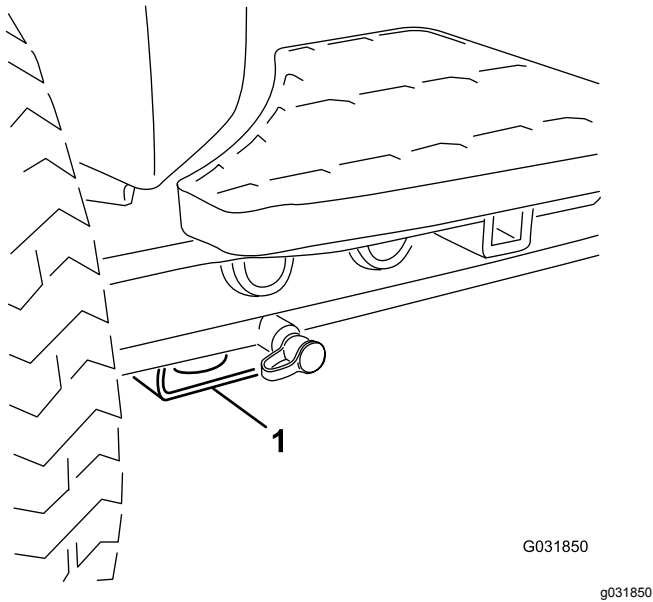

Figure 74
- Front—rectangular pad, under the axle tube, inside each front tire (Figure 74).